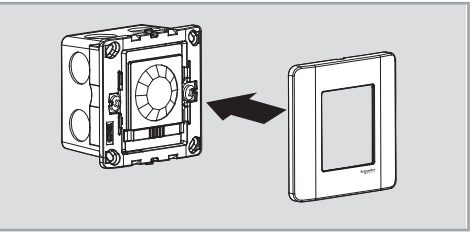
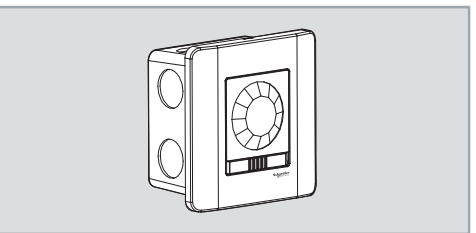

FIG.11
FIG.12
3.3.6 Cover the frame back firmly (See FIG.11 & FIG.12).